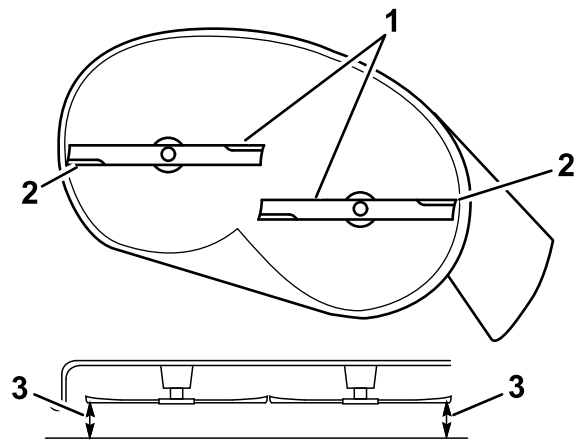

Figure 61
5. Measure between the outside cutting edges and the flat surface (Figure 61).